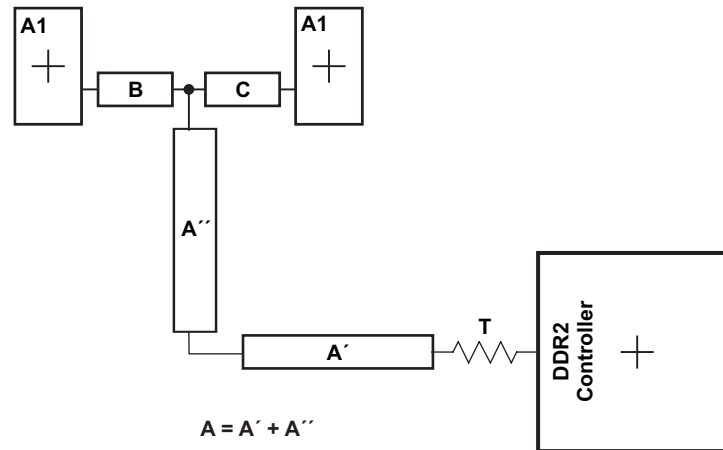

Figure 8-54. CK and ADDR\_CTRL Routing and Topology
Figure 8-54 shows the topology of the routing for the CK and ADDR\_CTRL net classes. The route is a balanced  $T$  as it is intended that the length of segments B and C be equal. In addition, the length of A ( $A'+A''$ ) should be maximized.
- (1) The length of segment  $A = A' + A''$  as shown in Figure 8-54.
- (2) Series terminator, if used, should be located closest to the device.
- (3) Center-to-center spacing is allowed to fall to minimum (2w) for up to 500 mils of routed length to accommodate BGA escape and routing congestion.
- (4) CACLM is the longest Manhattan distance of the CK and ADDR\_CTRL net classes.